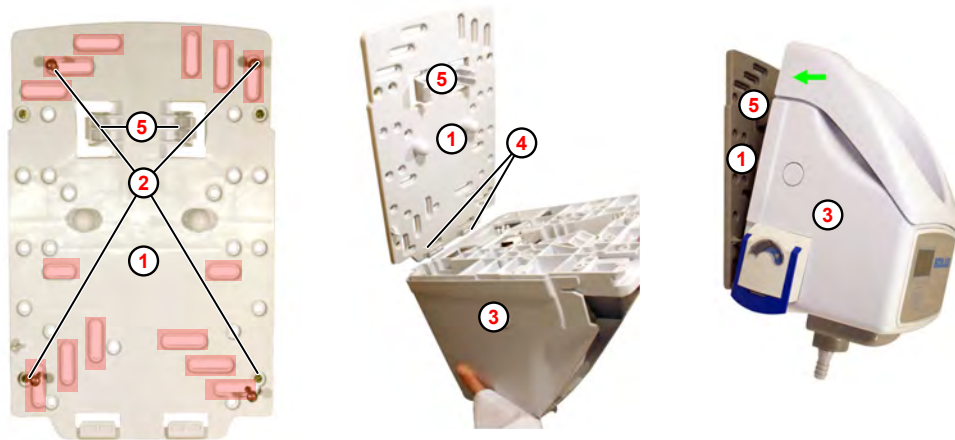

Fig. 3: Wall mounting (example with EcoPlus S)
- ① Wall bracket
- ② Drill holes
- ③ EcoPlus PDRX
- ④ Hooks
- ⑤ Retaining clip
1. ➤ Mark the desired drill holes at the mounting position using the wall bracket Fig. 3 ( ① , ) ② .
3. ➤ Fix the wall bracket ① to the wall using suitable attachment parts.
4. ➤ EcoPlus PDRX ③ Put the into the hooks ④ of the wall bracket ① from above.
5. ➤ EcoPlus PDRX ③ Pivot the onto the wall bracket ① and push it back until it audibly engages.